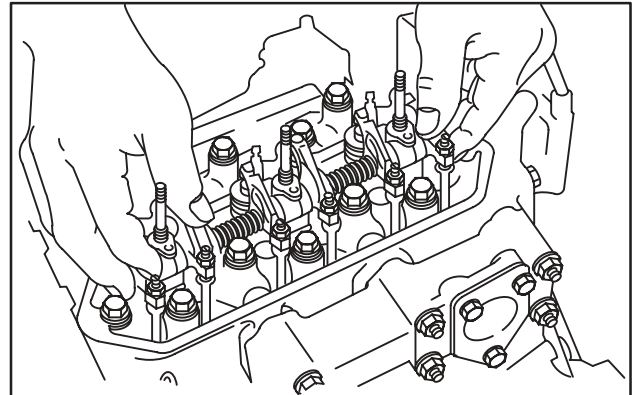

Fig. 35 – Install Rocker Arm Assembly
- Install valve stem caps on valve stems. Install rocker arm assembly, Fig. 35. Install washers and torque nuts to 19.0 Nm (170 in. lbs.).